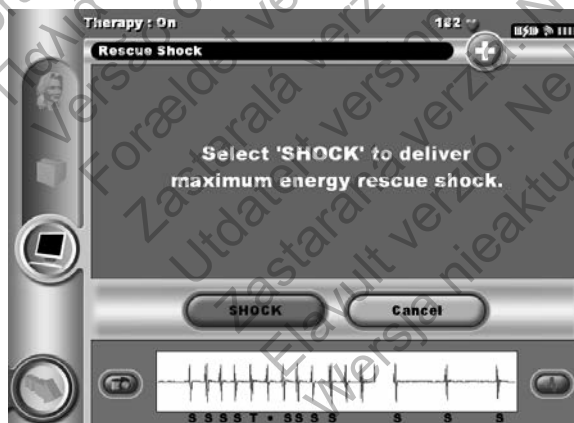

Figure 52: Rescue Shock screen
1. Select the red Rescue Button at the top of the programmer screen. The Rescue Shock screen appears (Figure 52).